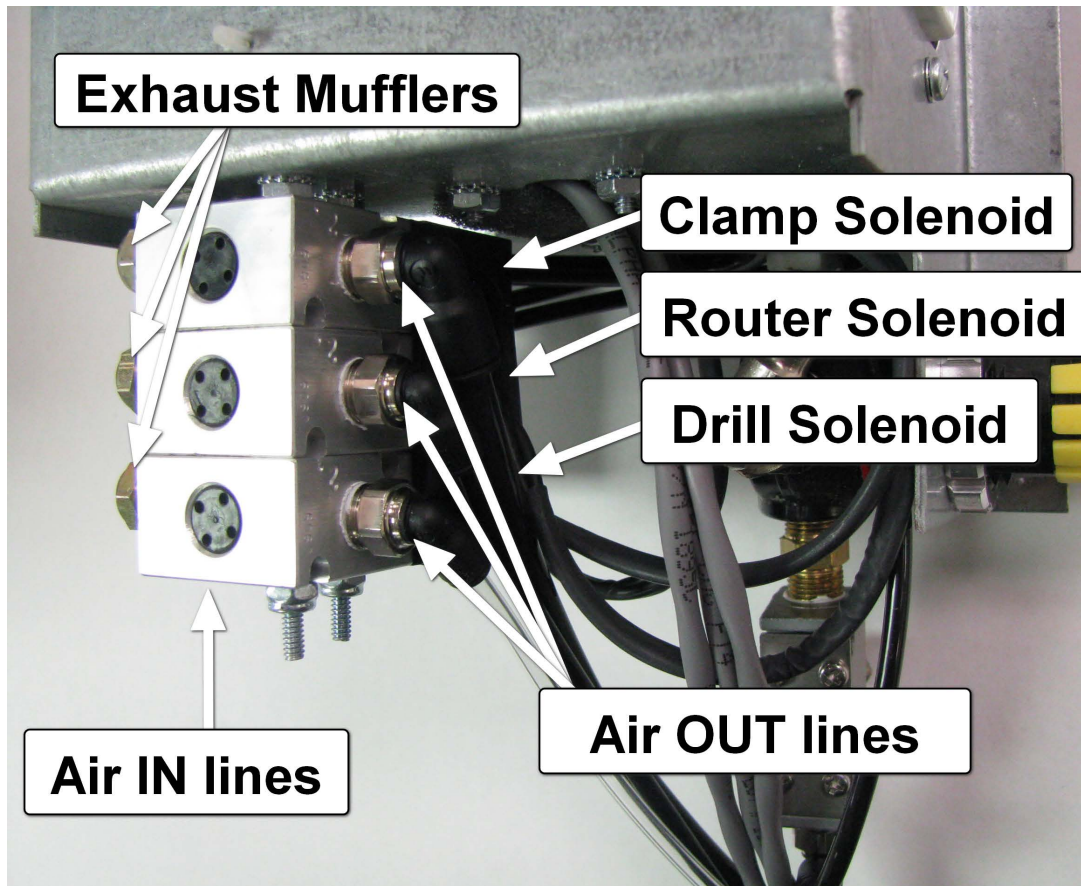
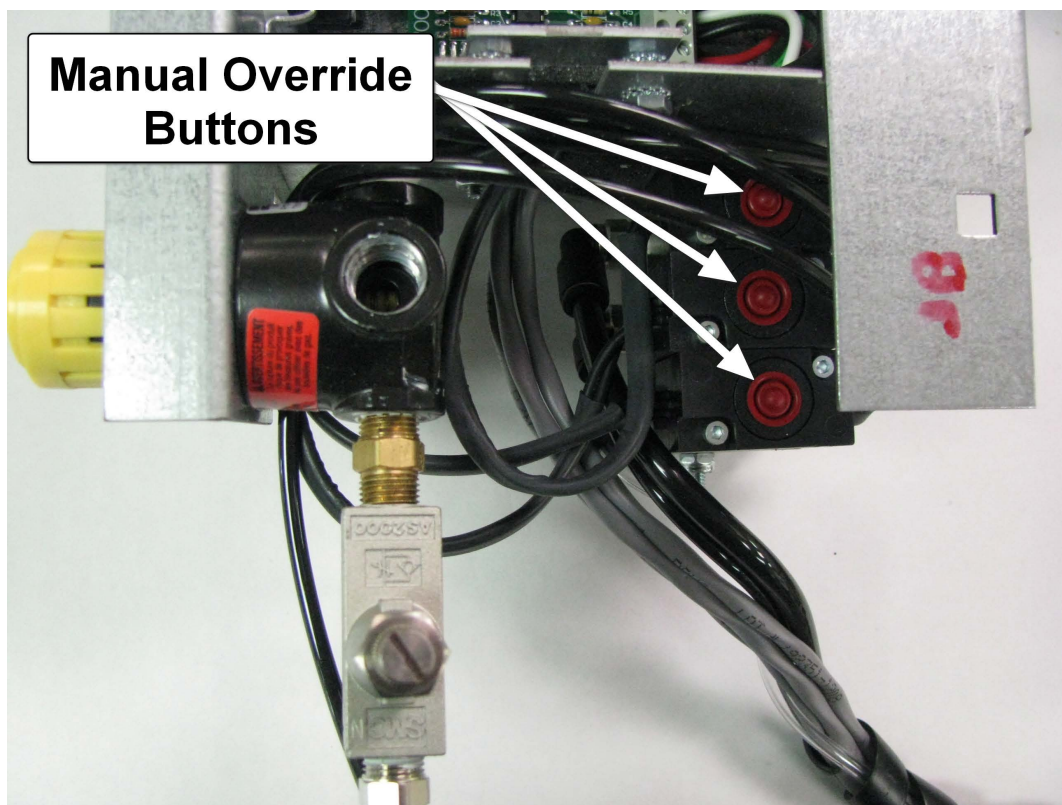

Fig 4a
Fig 4b
3. If the clamp does not extend, lift the work top of the machine. Locate the manual override button on the clamp solenoid. **See Fig 4a and Fig 4b**